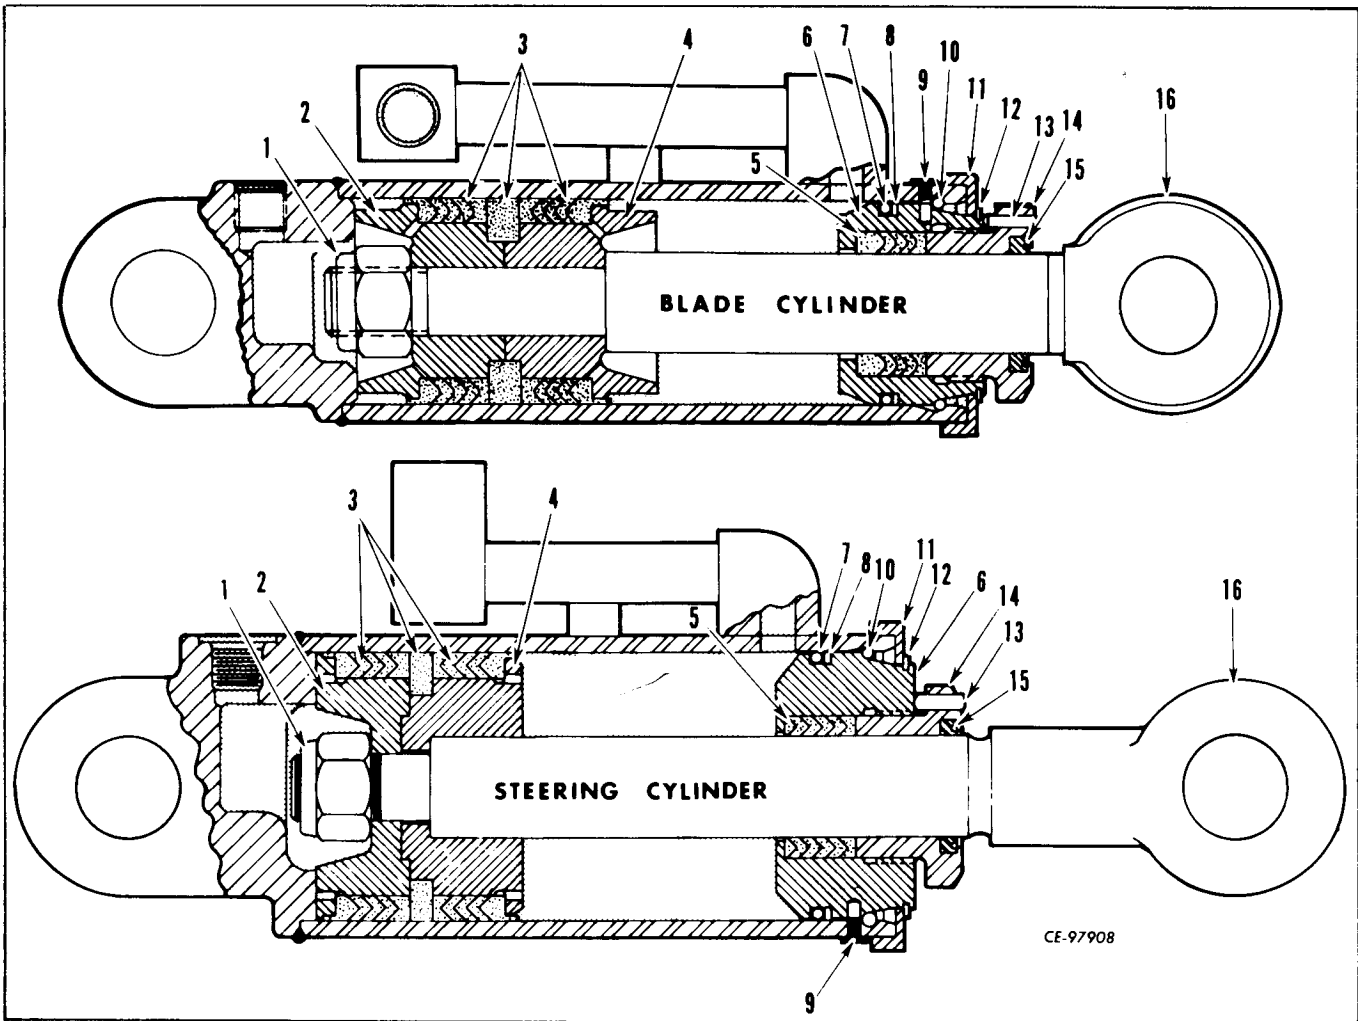

Figure 11-26
NOTE: The following disassembly procedure pertains to both the steering cylinder and blade cylinders. Fig. 11-26 illustrates the similarity between these cylinders.
Remove rubber plug (9, Fig. 11-26) and using a wrench, rotate packing nut (14), which in turn
Dip new "O" ring (7, Fig. 11-26) and back-up ring (8) in fresh hydraulic oil and install in groove of cylinder cap (6). Dip rod packing (5) in fresh hydraulic oil and insert in ID of cylinder cap (6).
NOTE: Open end of "V" in rod packing (5) must face piston when cap is installed. (Refer to Fig. 11-26 for proper position.)
Carefully push cap (6) into cylinder. Check position of "O" ring (7) and back-up ring (8). "O" ring should enter cylinder first, refer to Fig. 11-26.